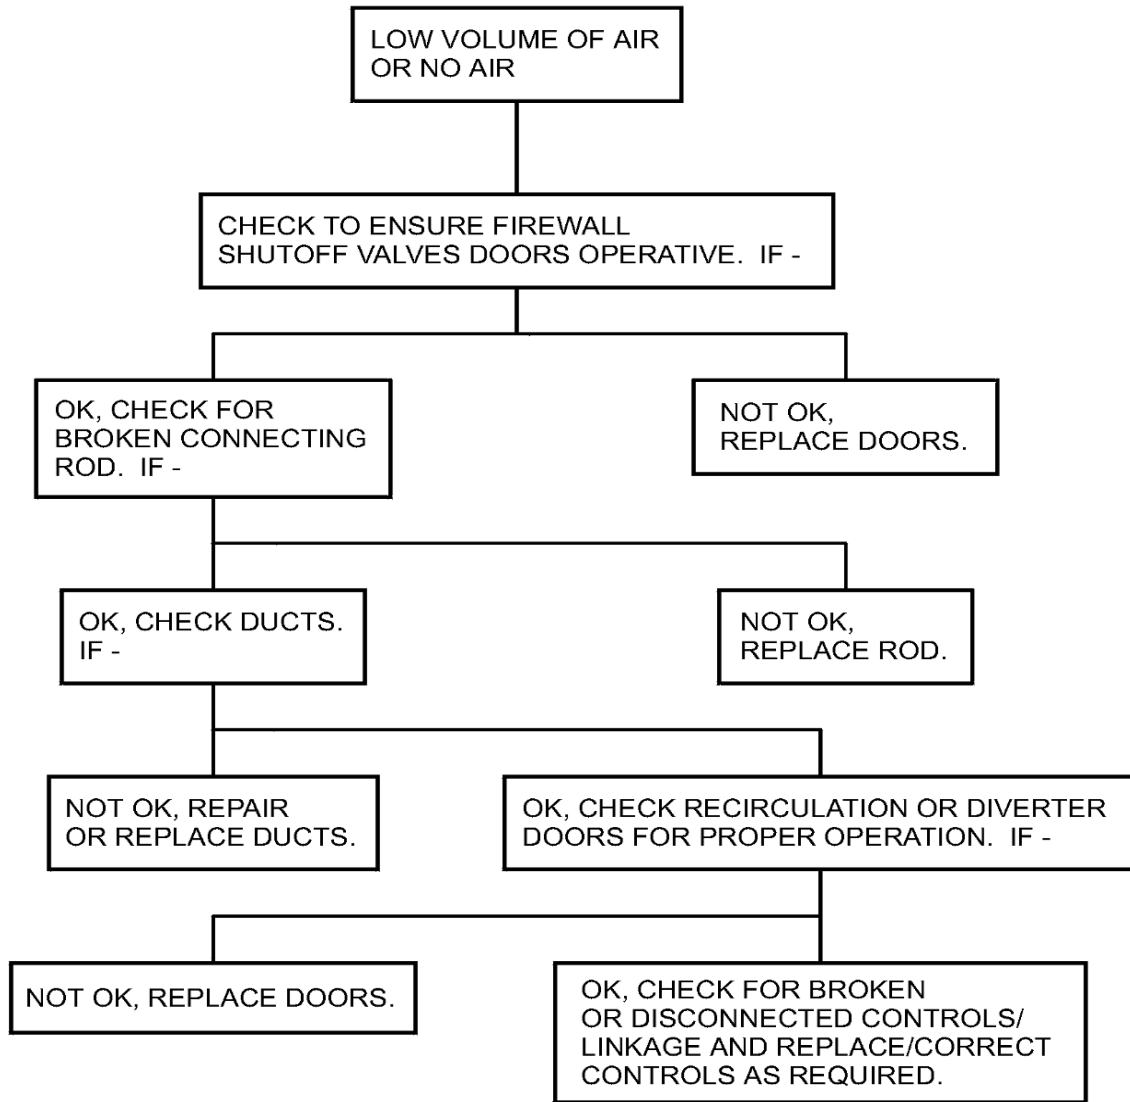

Figure 102 : Sheet 1 : Flow Control Valve Troubleshooting Chart
- B. Troubleshooting charts have been prepared to aid the maintenance technician in system troubleshooting. Refer to Figure 101 for compressor bleed air troubleshooting diagram. Refer to Figure 102 for flow control valve troubleshooting diagram. Refer to Figure 103 and Figure 104 for cabin heating and windshield defrosting troubleshooting diagrams.